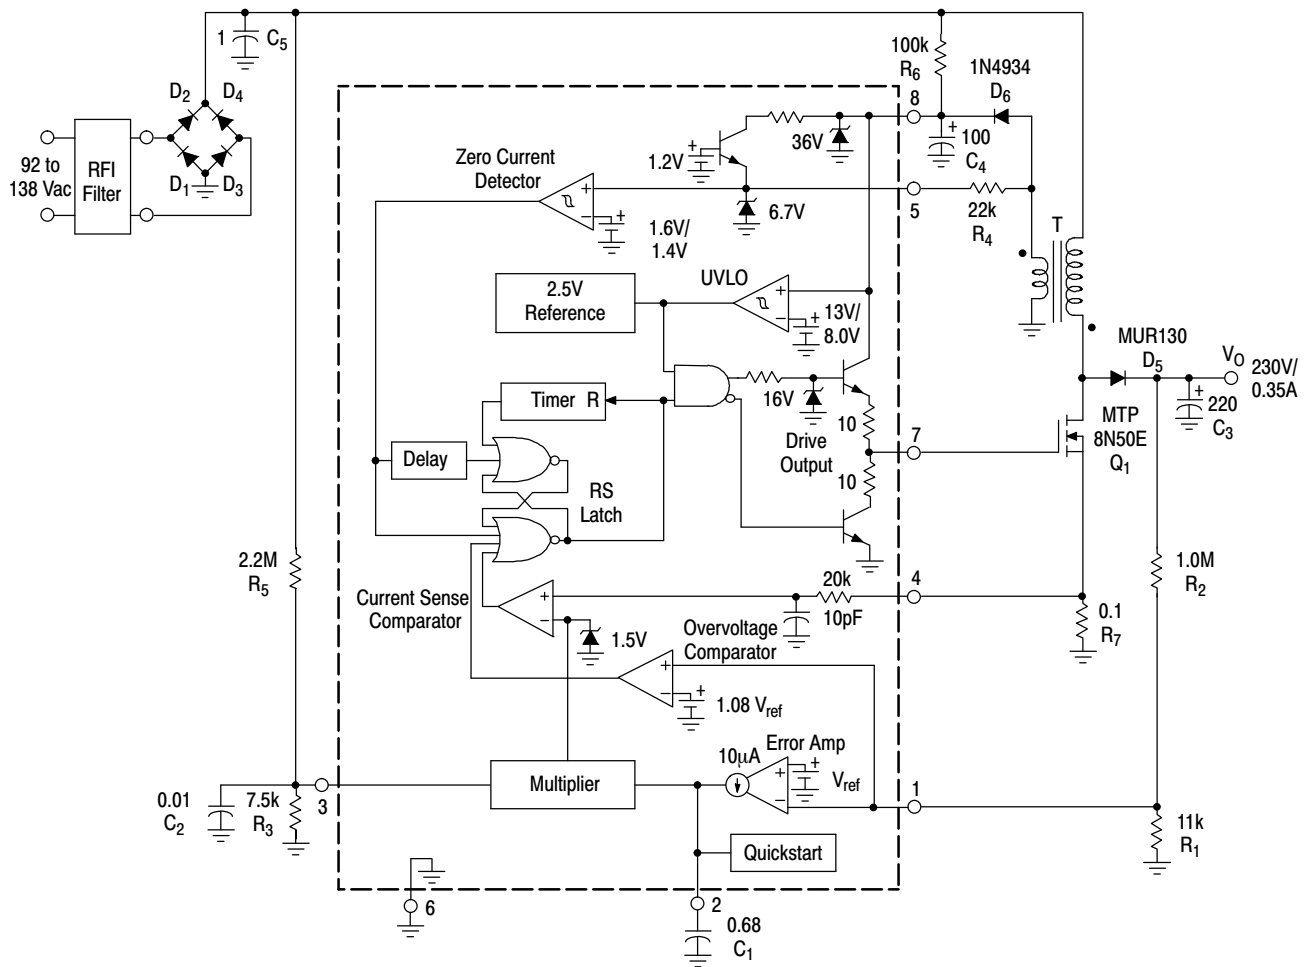
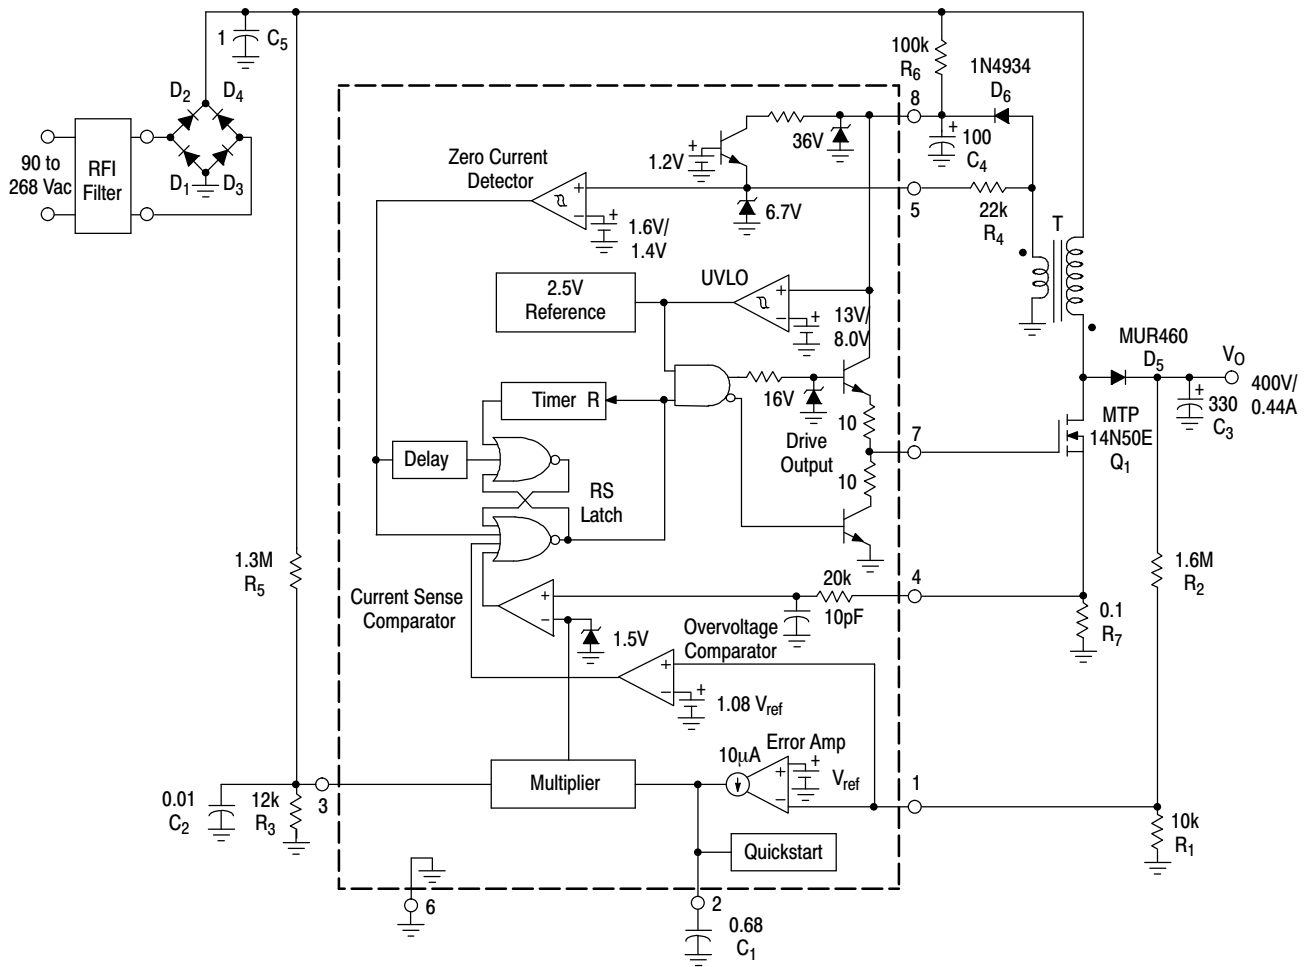
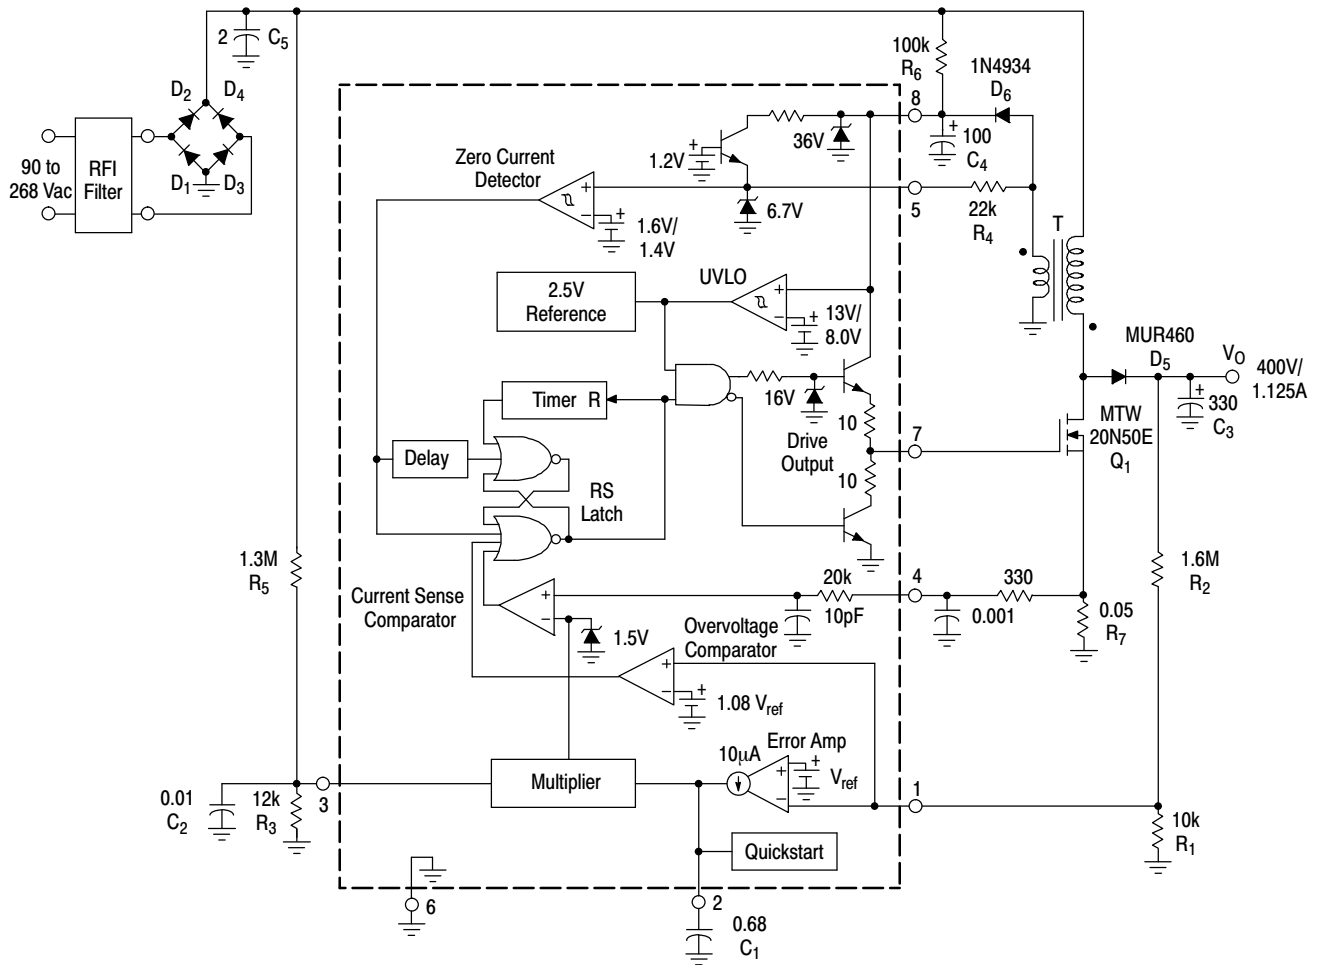

Figure 20. 80 W Power Factor Controller
Figure 21. 175 W Universal Input Power Factor Controller
Figure 22. 450 W Universal Input Power Factor Controller
3842 series. Referring to the block diagrams in Figures 20, 21, and 22 note that a multiplier has been added to the current sense loop and that this device does not contain an oscillator. The reasons for these differences will become apparent in the following discussion. A description of each of the functional blocks is given below.
An internal RC filter has been included to attenuate any high frequency noise that may be present on the current waveform. This filter helps reduce the ac line current distortion especially near the zero crossings. With the component values shown in Figure 21, the Current Sense Comparator threshold, at the peak of the haversine varies from 1.1 V at 90 Vac to 100 mV at 268 Vac. The Current Sense Input to Drive Output turn-off propagation delay is typically less than 200 ns.
The application circuits shown in Figures 20, 21 and 22 reveal that few external components are required for a complete power factor preconverter. Each circuit is a peak detecting current-mode boost converter that operates in critical conduction mode with a fixed on-time and variable off-time. A major benefit of critical conduction operation is that the current loop is inherently stable, thus eliminating the need for ramp compensation. The application in Figure 20 operates over an input voltage range of 90 Vac to 138 Vac and provides an output power of 80 W (230 V at 350 mA) with an associated power factor of approximately
0.998 at nominal line. Figures 21 and 22 are universal input preconverter examples that operate over a continuous input voltage range of 90 Vac to 268 Vac. Figure 21 provides an output power of 175 W (400 V at 440 mA) while Figure 22 provides 450 W (400 V at 1.125 A). Both circuits have an observed worst-case power factor of approximately 0.989. The input current and voltage waveforms of Figure 21 are shown in Figure 23 with operation at 115 Vac and 230 Vac. The data for each of the applications was generated with the test set-up shown in Figure 25.
An RFI filter is required for best performance when connecting the preconverter directly to the ac line. The filter attenuates the level of high frequency switching that appears on the ac line current waveform. Figures 20 and 21 work well with commercially available two stage filters such as the Delta Electronics 03DPCG5. Shown above is a single stage test filter that can easily be constructed with four ac line rated capacitors and a common-mode transformer. Coilcraft CMT3-28-2 was used to test Figures 20 and 21. It has a minimum inductance of 28 mH and a maximum current rating of 2.0 A. Coilcraft CMT4-17-9 was used to test Figure 22. It has a minimum inductance of 17 mH and a maximum current rating of 9.0 A. Circuit conversion efficiency η (%) was calculated without the power loss of the RFI filter.